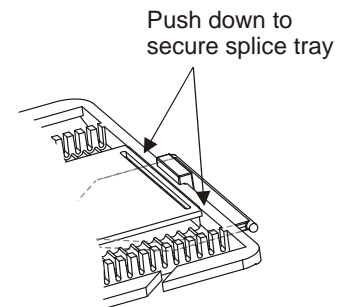

Figure 4. Secure Splice Tray
4. Push down on splice tray, on both sides of rear latch (see Figure 4), until splice tray is fully engaged by rear latch. An audible snap will be heard.